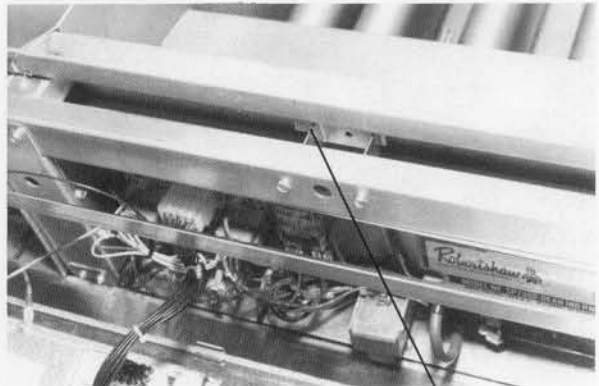

Figure 28
18. Remove frypot front hold-down screw (Fig. 28).